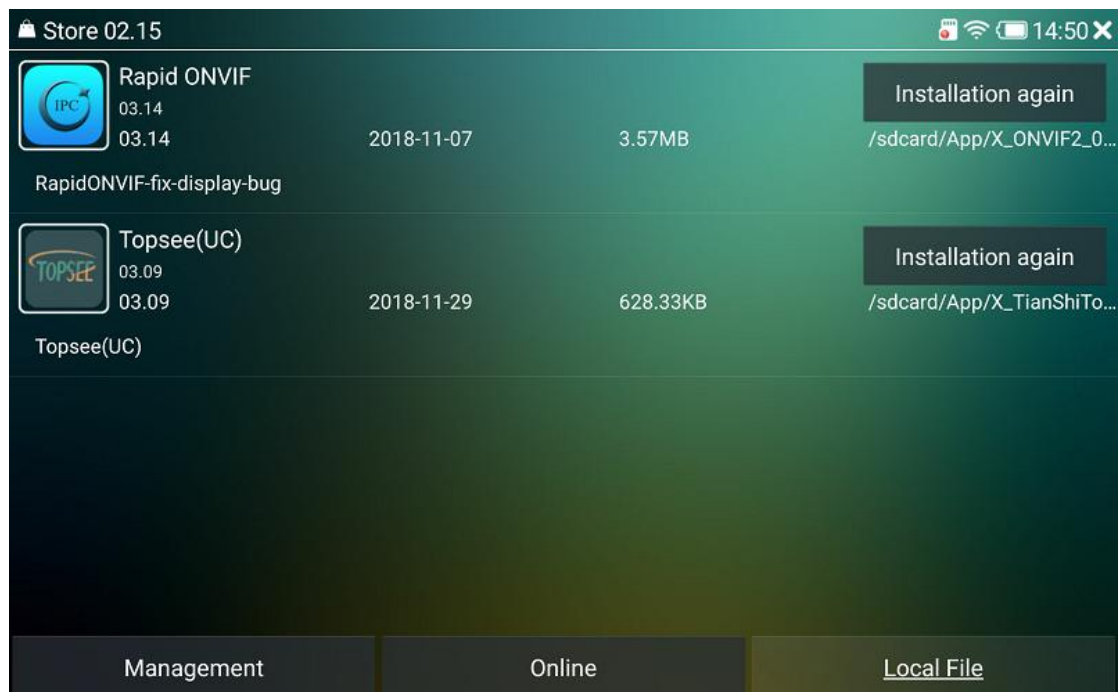

Figure 43
3) Local installation, touch 'Local File', the instrument will scan internal storage, SD card and U disk to look for installable software packages, long press corresponding Apps to delete application file, as shown in Figure 43